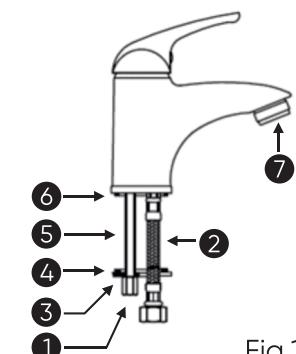

Fig.1
- The taps are installed with the use of the fixing set (see fig. 1)
- Screw in the connection hoses (2) and the fixing screw to the tap (5)